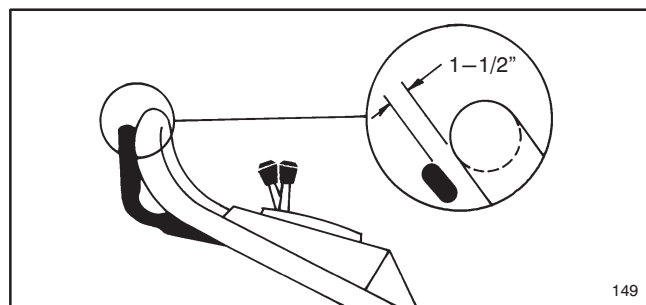

Figure 21
4. Lift control bar until some resistance is felt. Control bar should be 1-1/2" from handle when properly adjusted (Fig. 21).